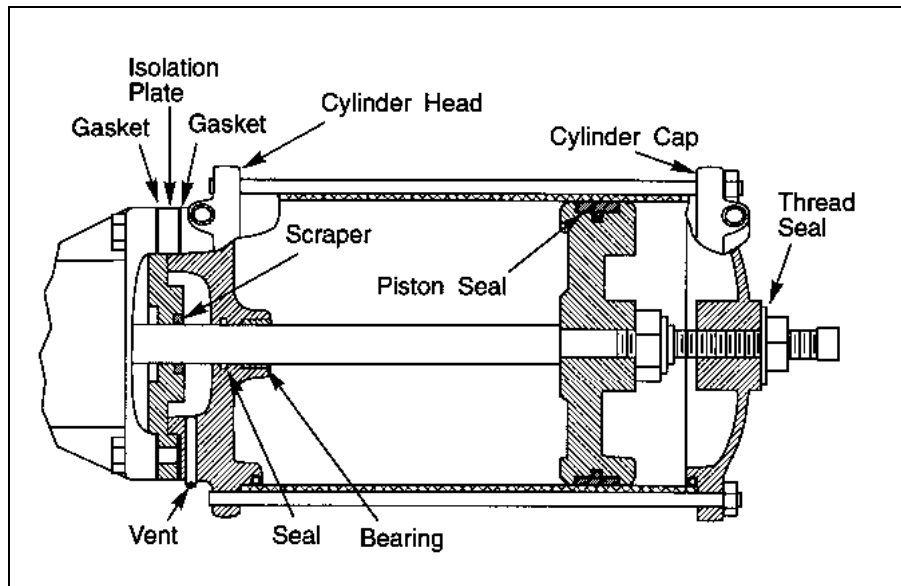

Figure 2—Cylinder Parts Location
2. Attach the isolation plate, then the cylinder head to the actuator. See Figure 2.